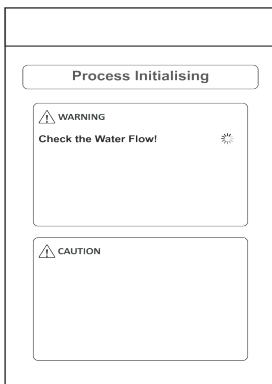

Fig. No. 36.2
- **Initialization Warning** (Ref. Fig. No. 36.2):